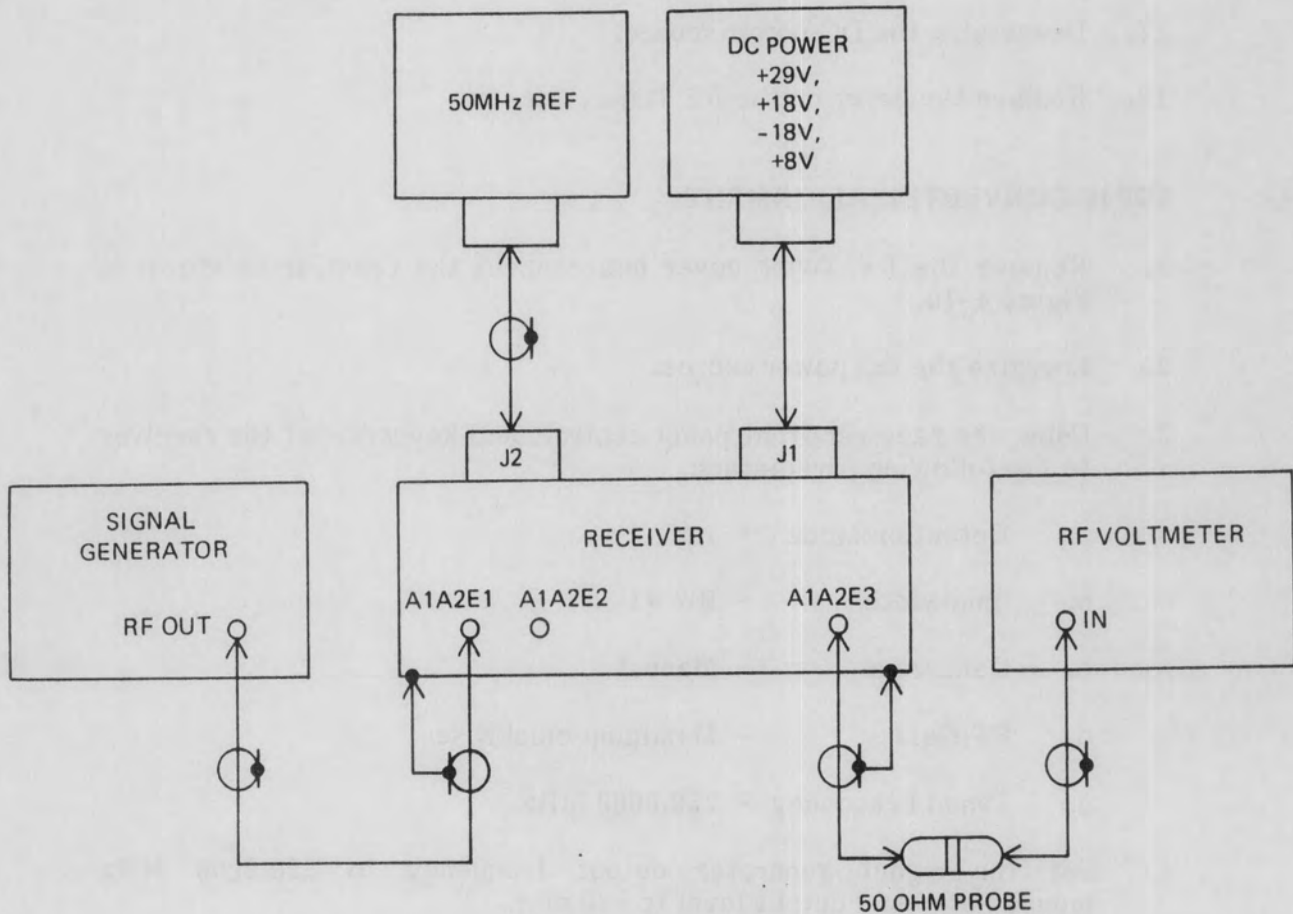

Figure 4-9. Dual RF Amplifier Alignment Equipment Setup
1. Remove the RF Tuner cover and connect the receiver as shown in **Figure 4-9**.